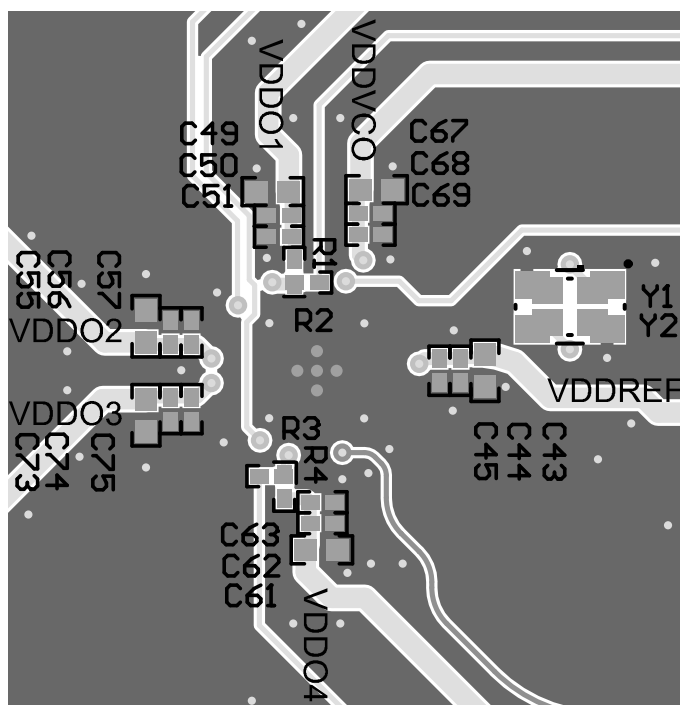

Figure 12-2. Layout Example, Bottom Layer
- Isolate the crystal area, connect the GND pads of the crystal package and flood the adjacent area. Figure 12-2 shows a foot print which supports multiple crystal sizes.
- Place decoupling capacitors with small capacitance values very close to the supply pins. Try to place them very close on the same layer or directly on the backside layer. Larger values can be placed more far away. Figure 12-2 shows three decoupling capacitors close to the device. Ferrite beads are recommended to isolate the different frequency domains and the VDD_VCO domain.